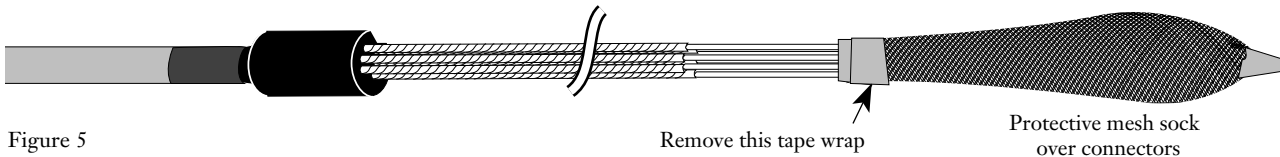

Figure 5
- d) Remove the wrap of tape around the mesh “sock” protecting the connectors (Figure 5). Pull the sock off the connectors. The trunk cable can now be strain-relieved and its connectors plugged according to the appropriate hardware instructions.